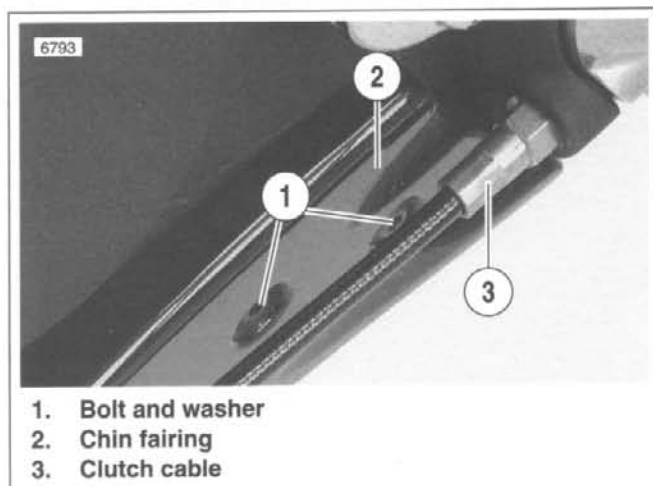

Figure 2-156. Chin Fairing, Left Side
1. See Figure 2-156. Remove two bolts and washers (1) from left side of chin fairing (2) near clutch cable (3).
4. See Figure 2-156. On left side of chin fairing (2), loosely install two bolts and washers (1).